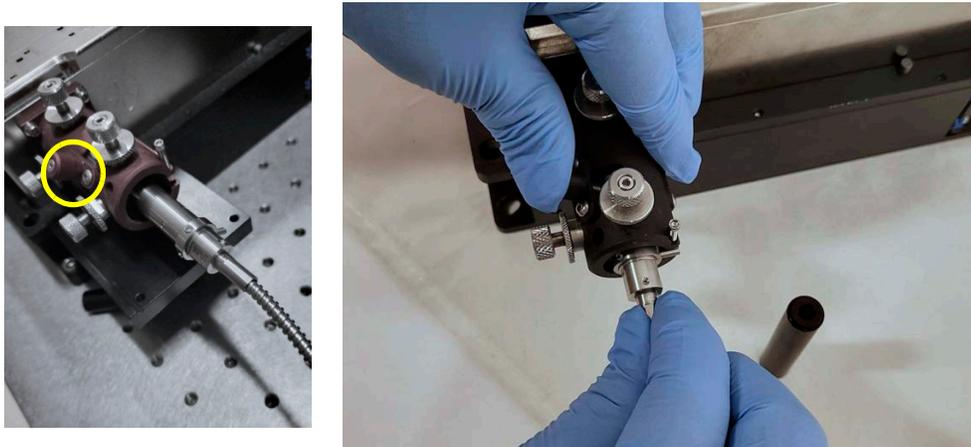

Figure 4-42. Push Button, Insert Fiber Connector Completely in Launcher
10. Firmly push and hold the release/hold button on the launcher in and gently rotate the fiber input side back and forth while the fiber is inserted. Some force is needed to release necessary tension. Refer to Figure 4-42. Make sure that the fiber is inserted to the end.